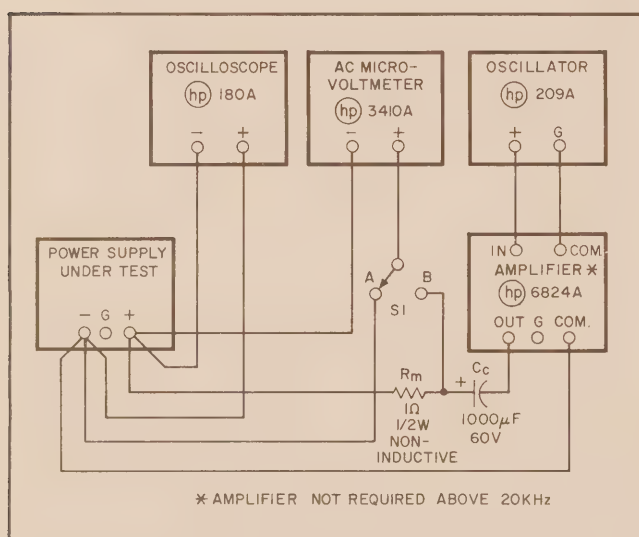

Figure 5-7. Output Impedance Test Setup
5-40 The test setup to be used is shown in Figure 5-7. It is important that the measuring instruments shown in the figure (oscilloscope and microvoltmeter) be connected directly across the power supply output terminals rather than at other points in the test setup. In addition, each instrument should be connected to the power supply with its own pair of leads in order to minimize mutual coupling effects. Monitoring resistor R_M (1 ohm, $\frac{1}{2}$ watt) must be a non-inductive resistor. The value shown for coupling capacitor C_C is the minimum required value; larger values of capacitance can be used without difficulty.
- Connect test setup shown in Figure 5-7.